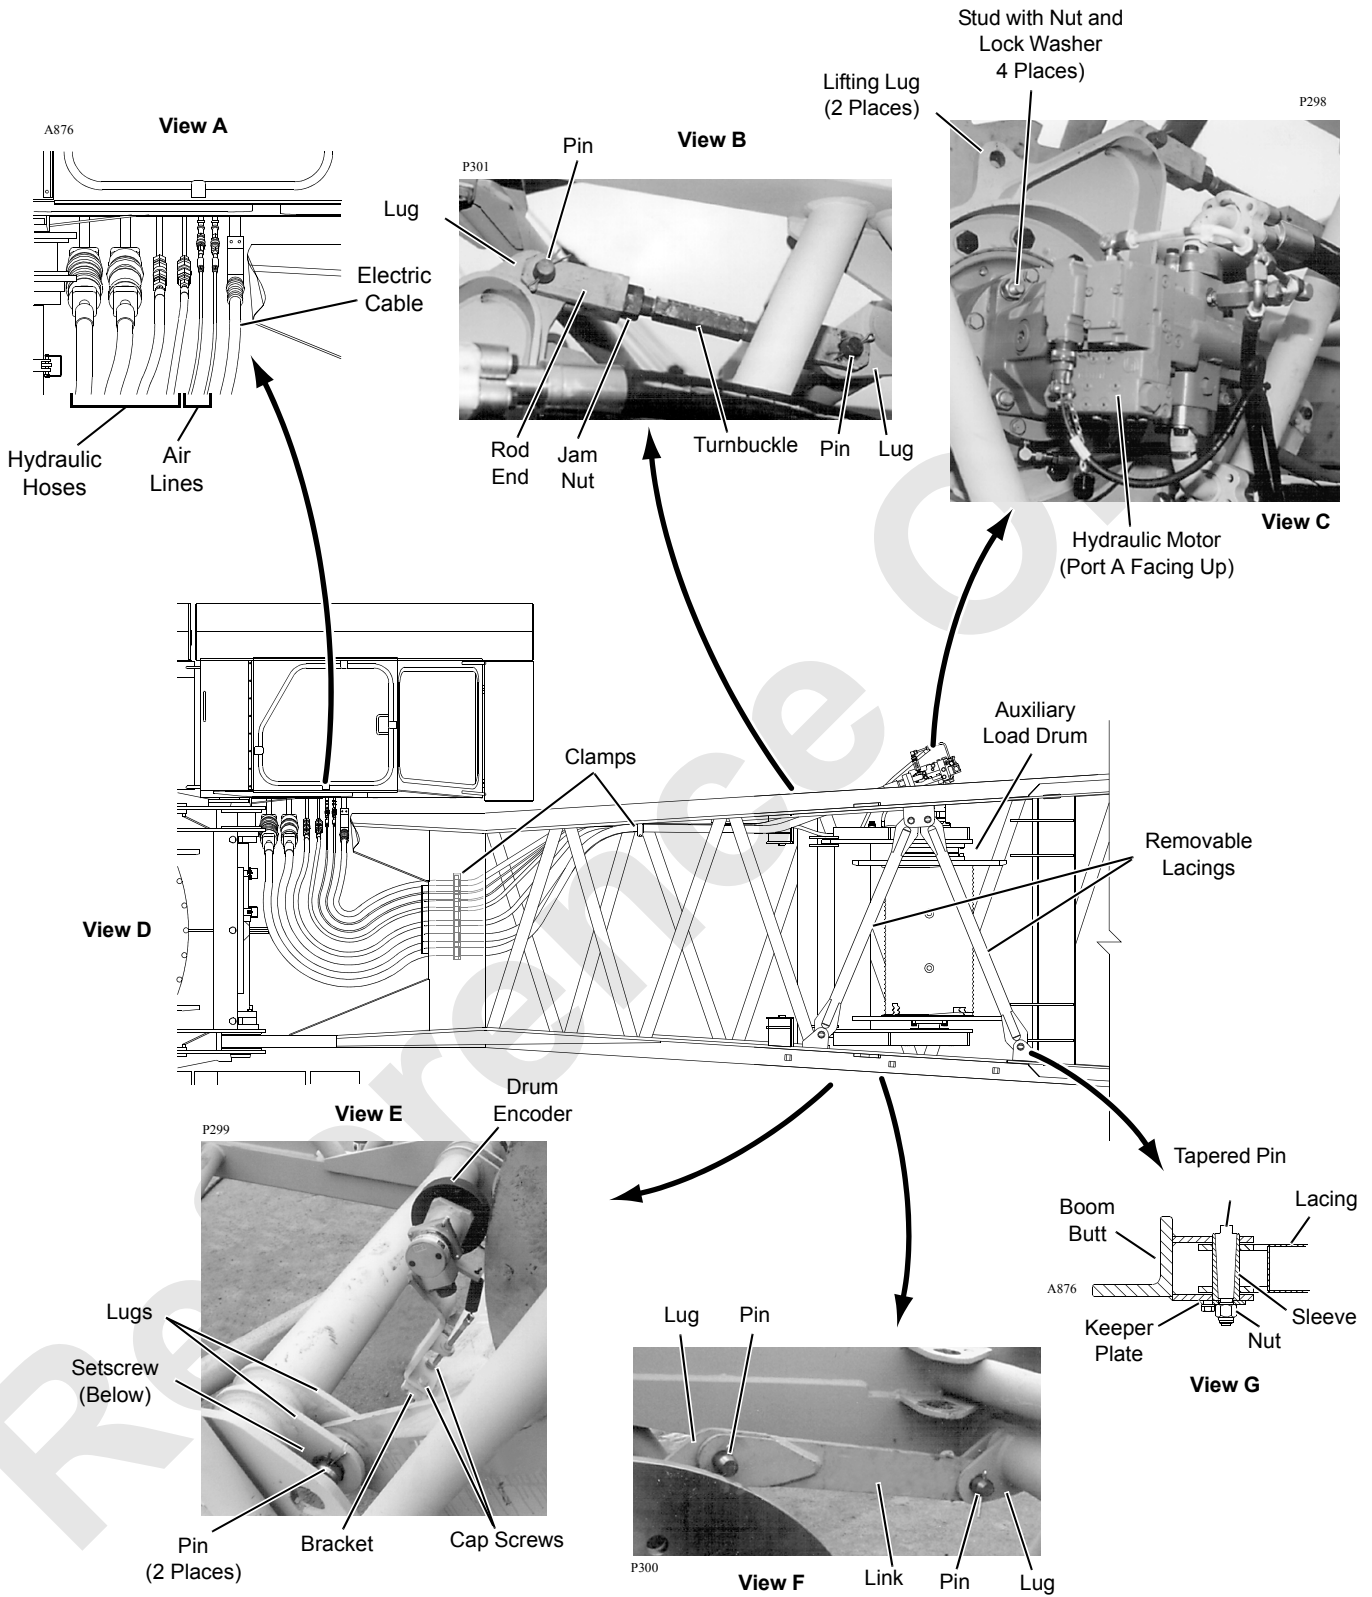

FIGURE 4-26
See Figure 4-26
1. Install clamp assemblies (Figure 4-26, View D) on boom butt (two places) for hydraulic hoses, air lines, and electric cable.
3. Connect hydraulic hoses and air lines to couplers at bottom right side of operator's cab (Figure 4-26, View A). Size and configuration of couplers make it impossible to hook up hoses or lines incorrectly.
4. Connect electric cable to plug at bottom right side of operator's cab (Figure 4-26, View A).
If butt is removed with auxiliary load drum installed, hydraulic hoses, air lines, and electric cable must be disconnected from couplers at bottom right side of operator's cab (Figure 4-26, View A).